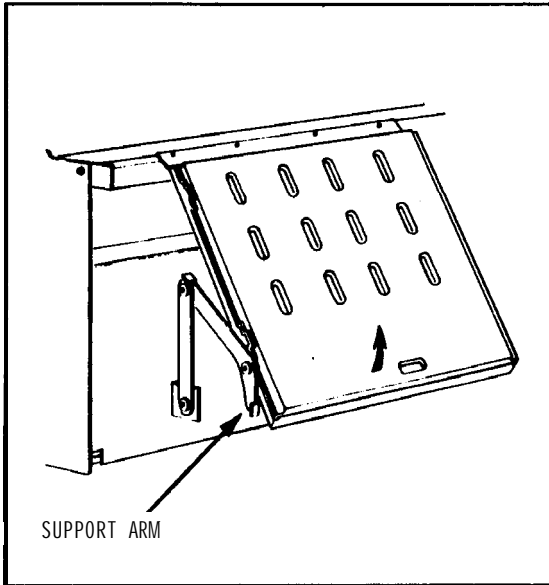

Figure S-30a Version Number 1
- \* On version number 1, pivot the Gum & Mint Assembly upward until the support arms fall into the locked position. See Figure S-30a below.